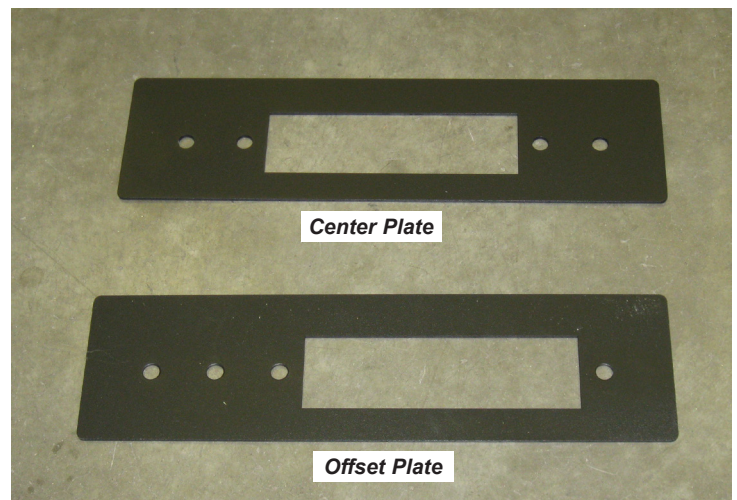

Figure 16
16. Install the fairlead plate. Use the centered plate if the winch will be mounted using the centered hole patterns. Use the offset plate if the winch will be mounted using the offset hole pattern. DO NOT MIX THE PLATES. Using the incorrect plate can damage the winch and/or winch rope. Figure 16